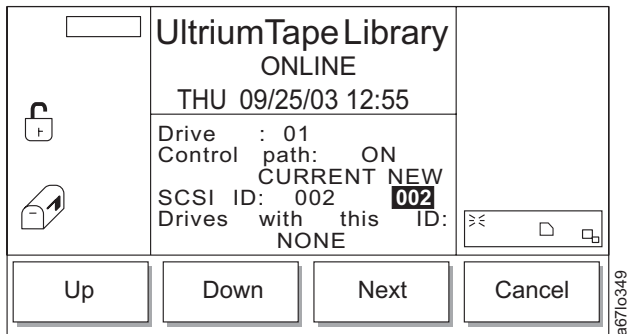

Figure 14-41. Drive SCSI ID Dialog
1. Press the button below the **Next** softkey. The Drive SCSI ID Dialog displays (see Figure 14-41 on page 14-43).